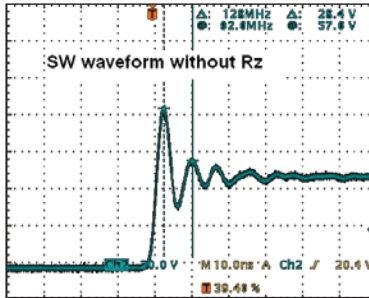
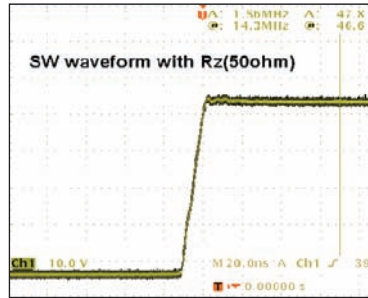

Figure 3
Figure 4
- 1: One resistor R_z (50 Ω) is added between the SW pin and Cb pin. This changes the SW node waveform from **Figure 3** to **Figure 4**. The criterion of R_z selection is dependent on the SW turn-on slew rate and its ringing. The smaller the ringing, the better.